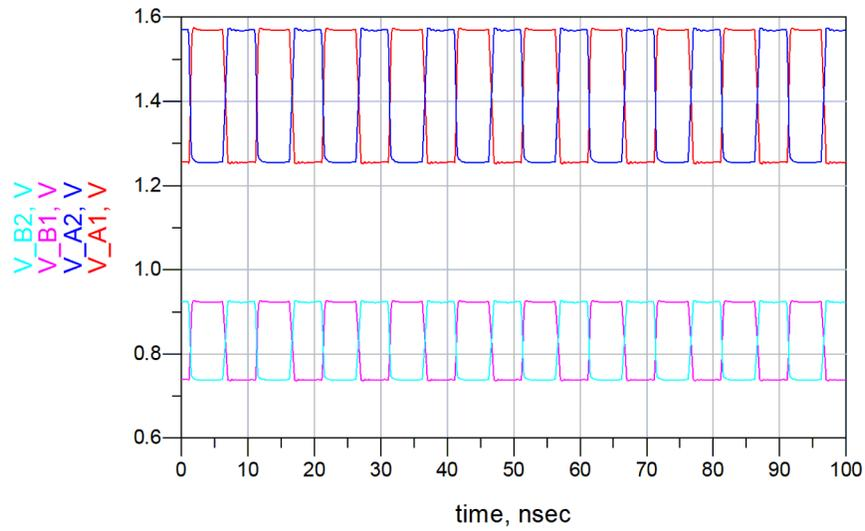

Figure 3-3. Simulation Results for Devices Without Internal Termination
- The simulation shown in Figure 3-3 demonstrates a voltage swing of approximately: